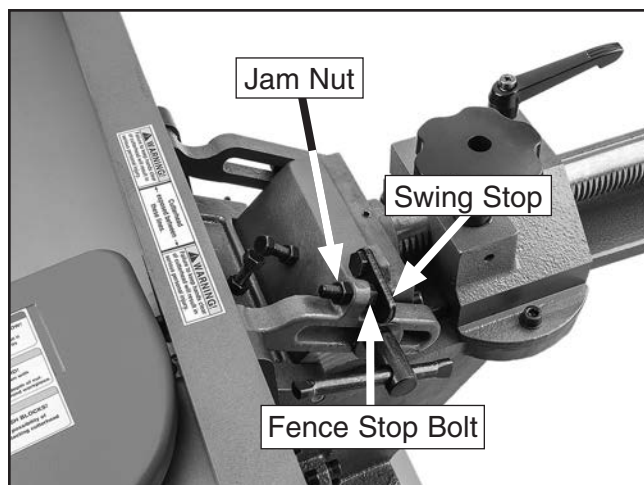

Figure 71. 90° swing stop engaged.
2. Flip 90° swing stop into position shown in **Figure 71**.
3. Loosen jam nut on 90° fence stop bolt (see **Figure 71**).
1. Disengage swing stop (see **Figure 71** on **Page 43**).